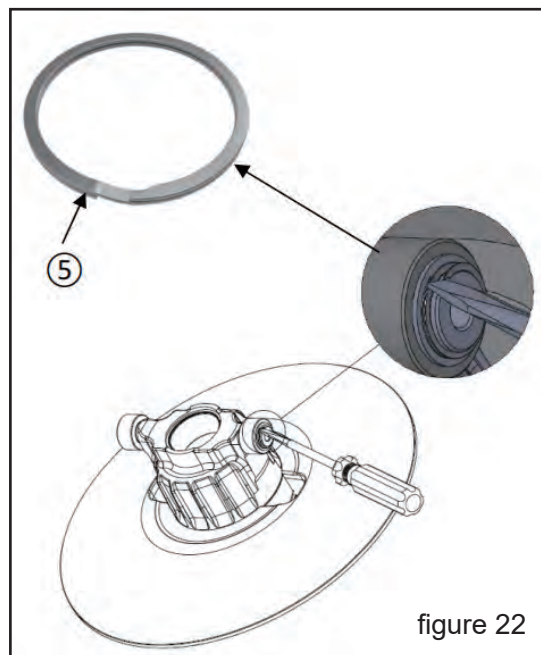

figure 22
- ◆ With a flat head screwdriver, remove the external retaining ring ⑤ from the sliding sheave ② (figure 22).